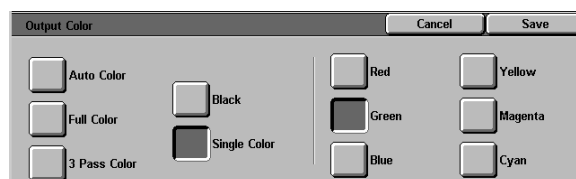

Figure 8: Output Color screen
- Touch **More...** to see additional options, as illustrated in Figure 8.